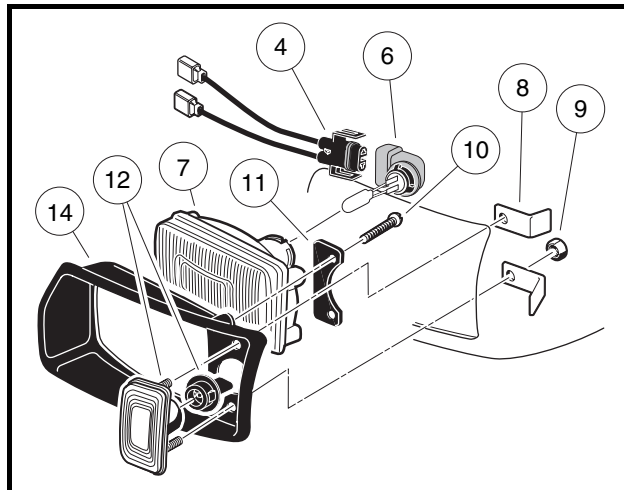

Figure 12a-10 Headlight Assembly
3. From the front of the vehicle, reach under the cowl and turn the wire harness/halogen bulb assembly (4 and 6) clockwise one-quarter turn (**Figure 12a-10, Page 12a-12**).
4. Remove the wire harness/halogen bulb assembly (4 and 6) from the headlight lens (7).
5. Lift the retaining tabs on the connector (4), and remove the halogen bulb assembly (6).
1. Connect the wire harness (4) to the halogen bulb assembly (6). The retaining tab should lock onto the halogen bulb assembly (**Figure 12a-10, Page 12a-12**).
2. From the front of vehicle, reach under the cowl and insert the wire harness/halogen bulb assembly (4 and 6), into the headlight lens (7).